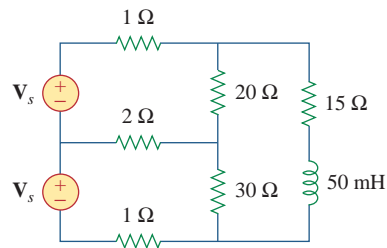

Figure 12.78
- 12.87** Consider the single-phase three-wire system shown in Fig. 12.78. Find the current in the neutral wire and the complex power supplied by each source. Take \mathbf{V}_s as a $115 \angle 0^\circ$ -V, 60-Hz source.